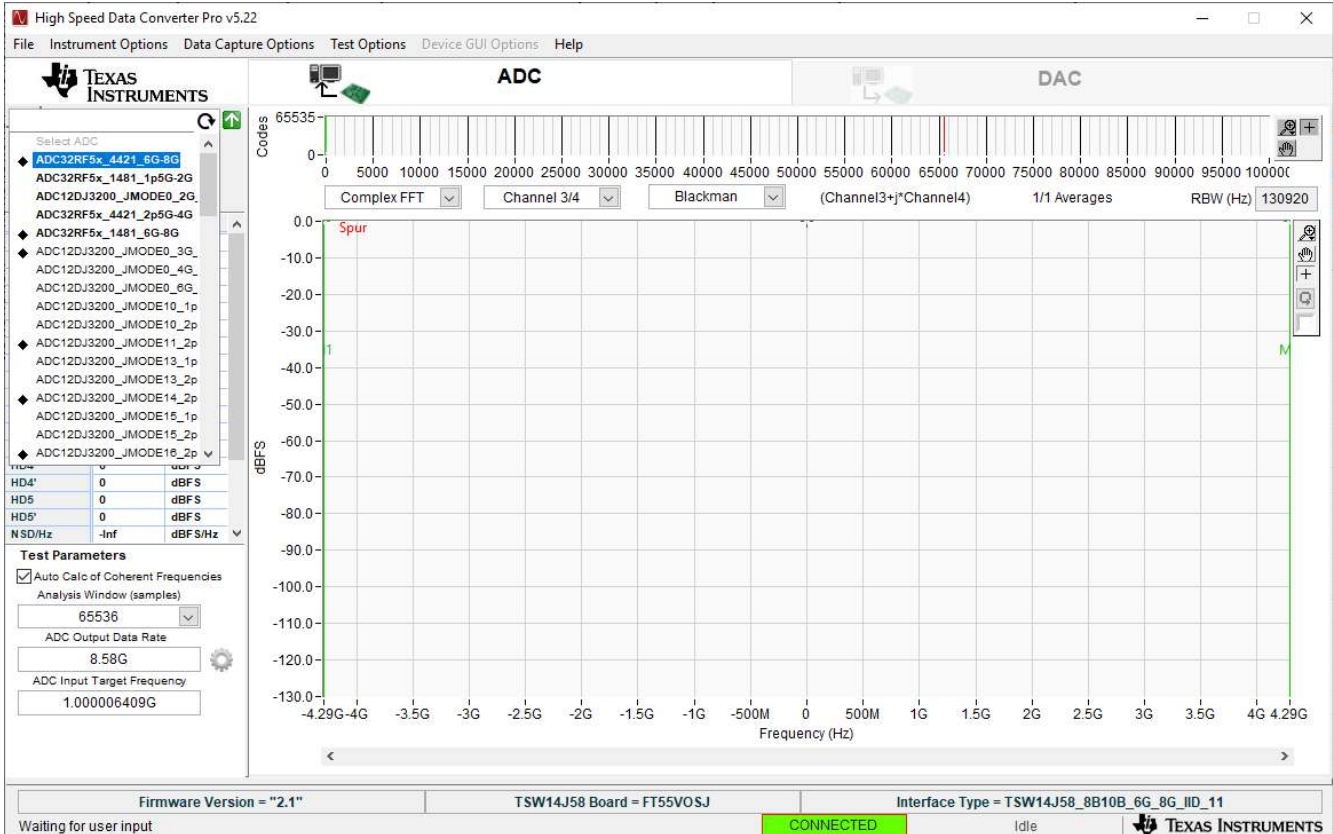

Figure 4-2. ADC32RF5x_4421_6G-8G INI file
- In HSDC Pro, connect to the TSW14J58EVM and select **ADC32RF5x_4421_6G-8G** as the INI file shown in Figure 4-2.